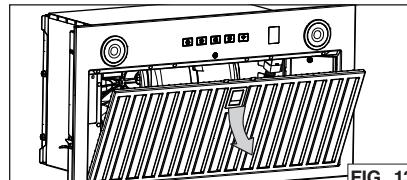

FIG. 13
2. Remove the grease filter by pushing down on the latch tab and tilting the filter downward (FIG. 13). Set aside the filter.